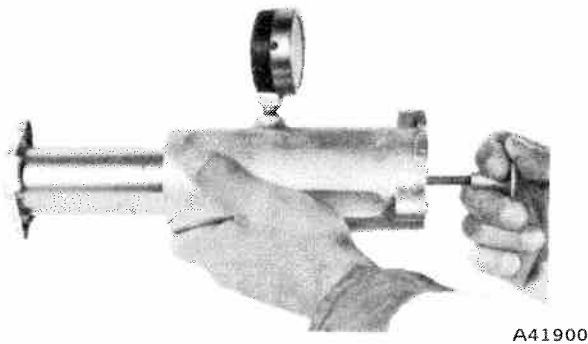

Fig. 2-15 Radiator Pressure Cap Test
- (1) Remove cap from radiator.
- (2) Make sure seating surfaces are clean.
- (3) Wet rubber gasket with water and install cap on tester (fig. 2-15).